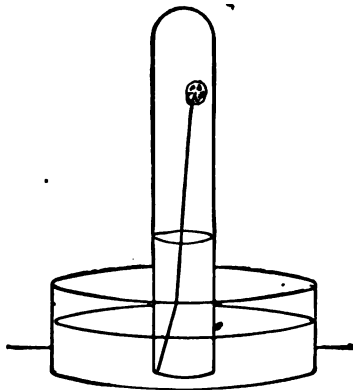

FIG. 38.
M. That has several disadvantages. First of all, other gases are produced at the same time which remain mixed with the nitrogen; and second, a candle goes out long before the whole of the oxygen has been removed. Here is another means of removing oxygen: it is *phosphorus* (see page 105). It has the property of using up all oxygen even at ordinary temperature. I place in a test-tube a piece of phosphorus which has been made fast to a wire by melting. Then I invert the test-tube over water (Fig. 38). You see that a white vapor flows down from the phos-